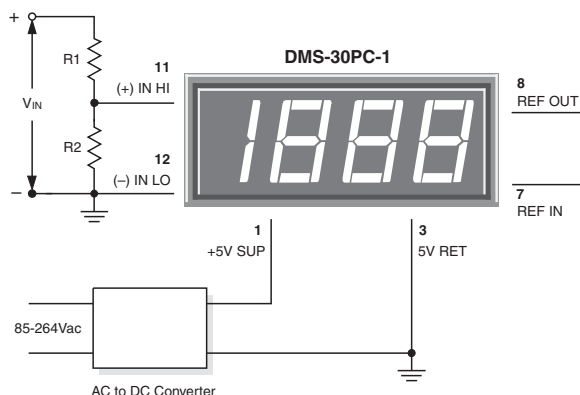

**Figure 3.** Differential Input Configuration
- 2. Differential Input Configurations:** Differential measurements can be made with all DMS-30PC meters. Figure 3, though not a practical real-world application, uses a voltage divider to demonstrate the concept of a differential input signal. Be careful not to exceed the  $\pm 2V$  common mode voltage limitation for 5V-powered meters.